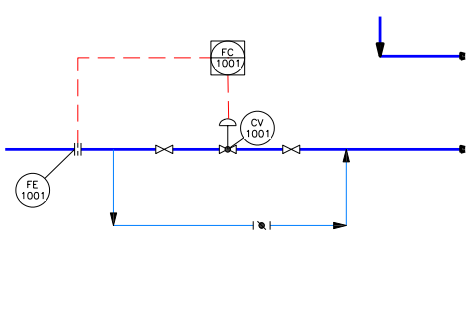

Figure 2-70 Position of another **Primary Accessible DCS** on the electric signal line of the feed line
- Similarly, place another **Primary Accessible DCS** on the electric signal connected to the feed pipe, refer to Figure 2-70.